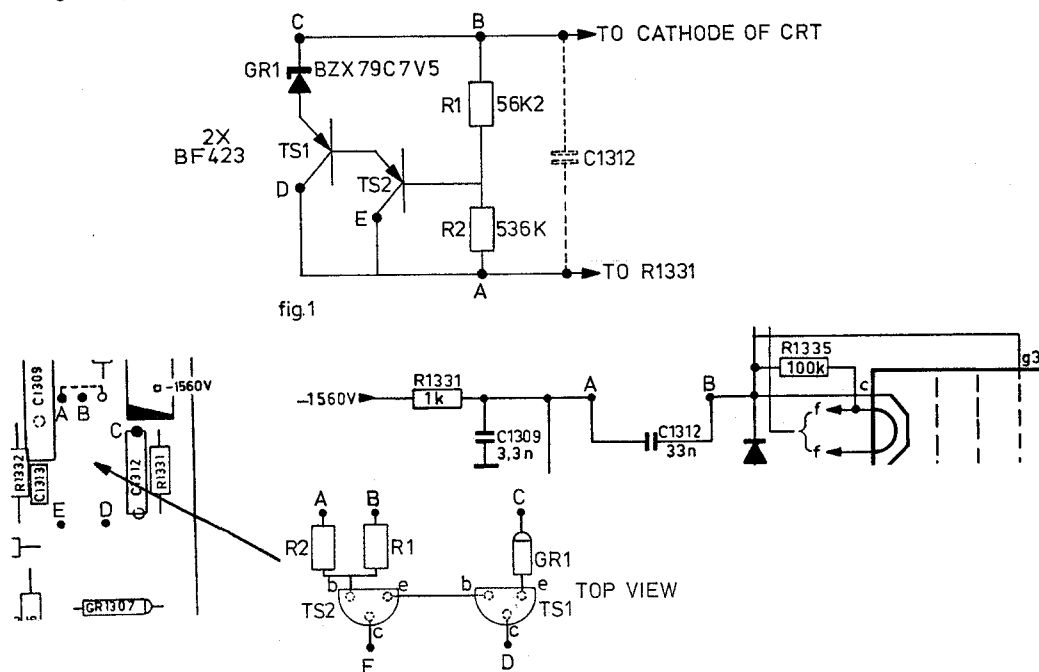

Fig. 2. Part of Z-unit (fig. 3.42 and 3.43 of the manual).
Changing these capacitors to 442 pF improves the sweep time accuracy in above mentioned time-base range; refer to Fig. 2 and 3.
- Solder the parts together as indicated in fig. 2.
- Solder the resistors R1 and R2 and the diode GR1 on the points A, B and C of the Z-amplifier (see fig. 2.).